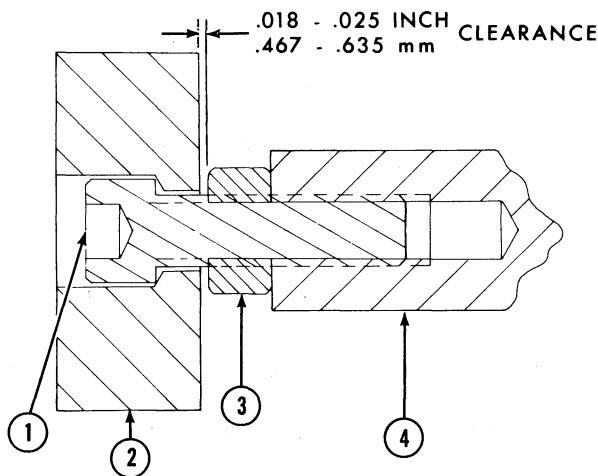

Figure 39
3. Install the centering spring (18) and spring collars (17) onto the spool using the positioner stud (31) to secure them. Torque the stud to 5 lbs. ft. (6.8 Nm).
5. Attach the clapper (2), Figure 39, to the positioner stud (4) as follows: